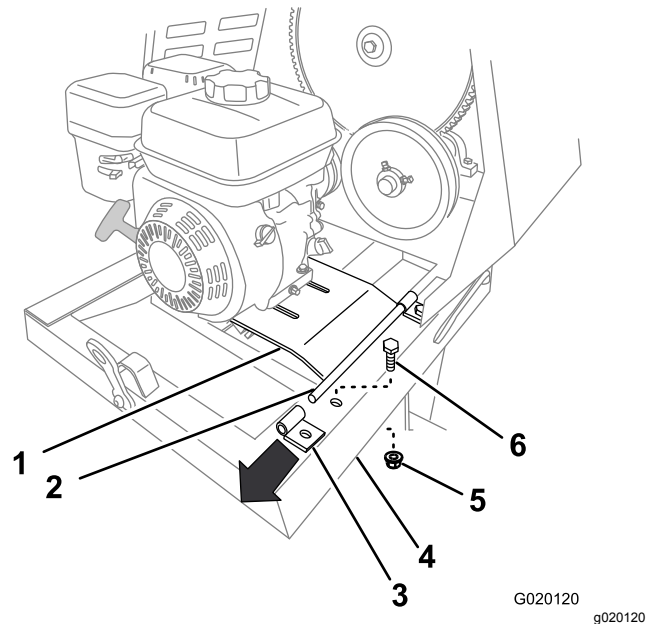

Figure 48
- Remove the bolt and nut that secure the rear bracket for the engine deck hinge to the frame of the machine (Figure 48).
- Lift up the rear edge of the engine deck and remove the hinge bracket (Figure 48).
6. Secure the rear bracket to the frame of the machine using the bolt and nut (Figure 48) removed in step 8 of Removing the Engine \(page 34\).